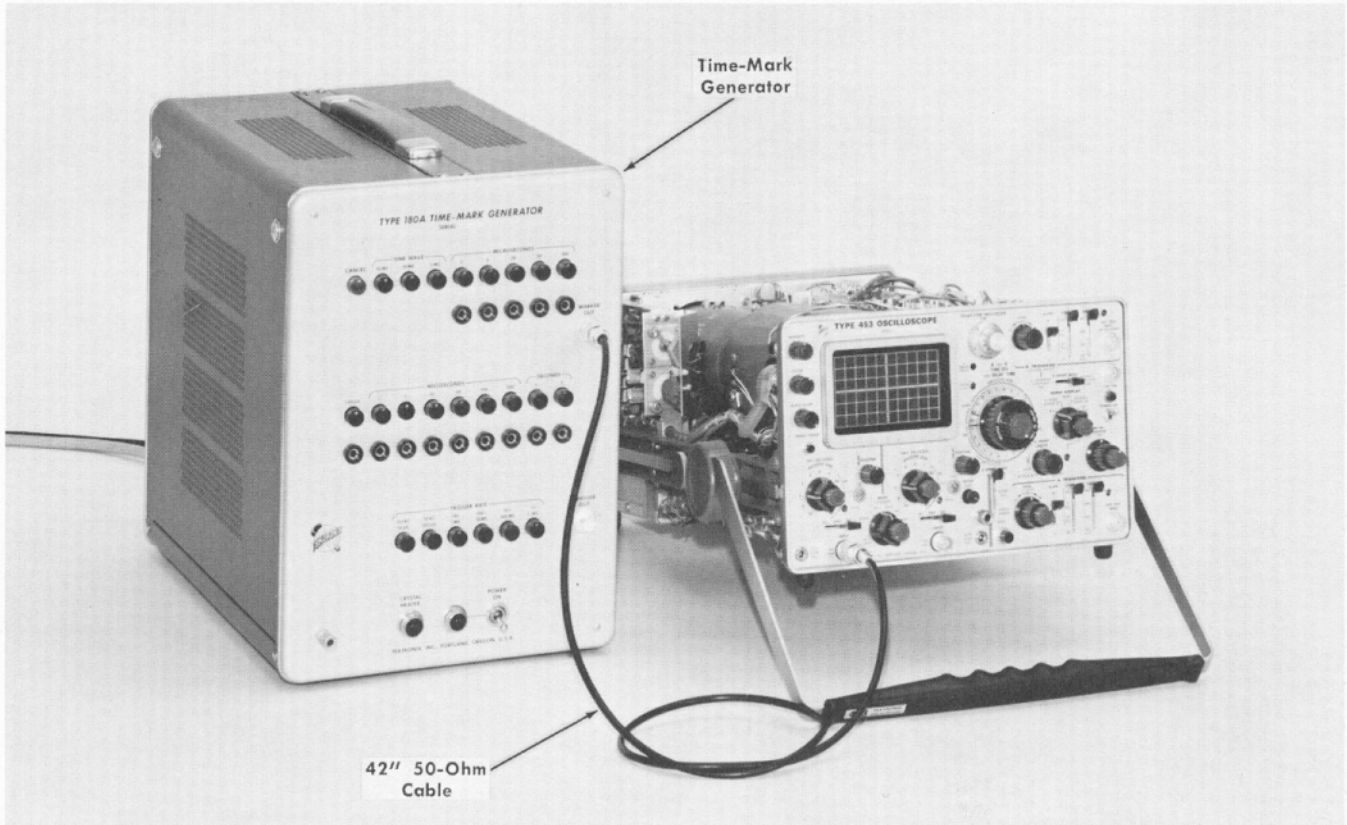

Fig. 6-42. Initial test equipment setup for steps 36 through 53.
- a. Test equipment setup is shown in Fig. 6-42.